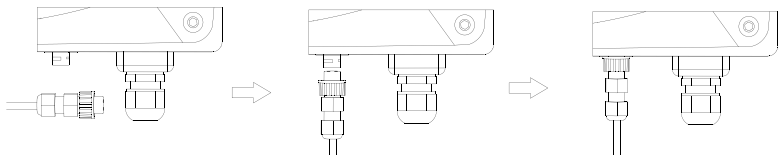

Figure 7.4 Communication cable connection
- (1) Connect the communication connector configured for the inverter to the RS485 terminal of the inverter, as shown in Fig 7.4;
- (2) According to Table 7-1, connect the communication connector pinout and the user's device, make sure the connection is correct.